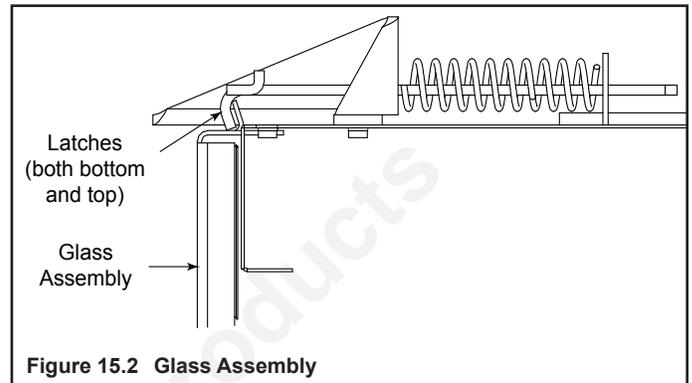

Figure 15.2 Glass Assembly
- Pull the four glass assembly latches out of the groove on the glass frame. Refer to Figure 15.2.
- Replace glass latches. See Figure 15.2.